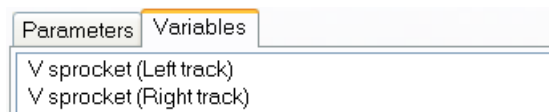

Fig. 55 Test variables
2) Open a graphic window and drag in it the test variables, which are circular velocities of sprockets, Fig. 55.